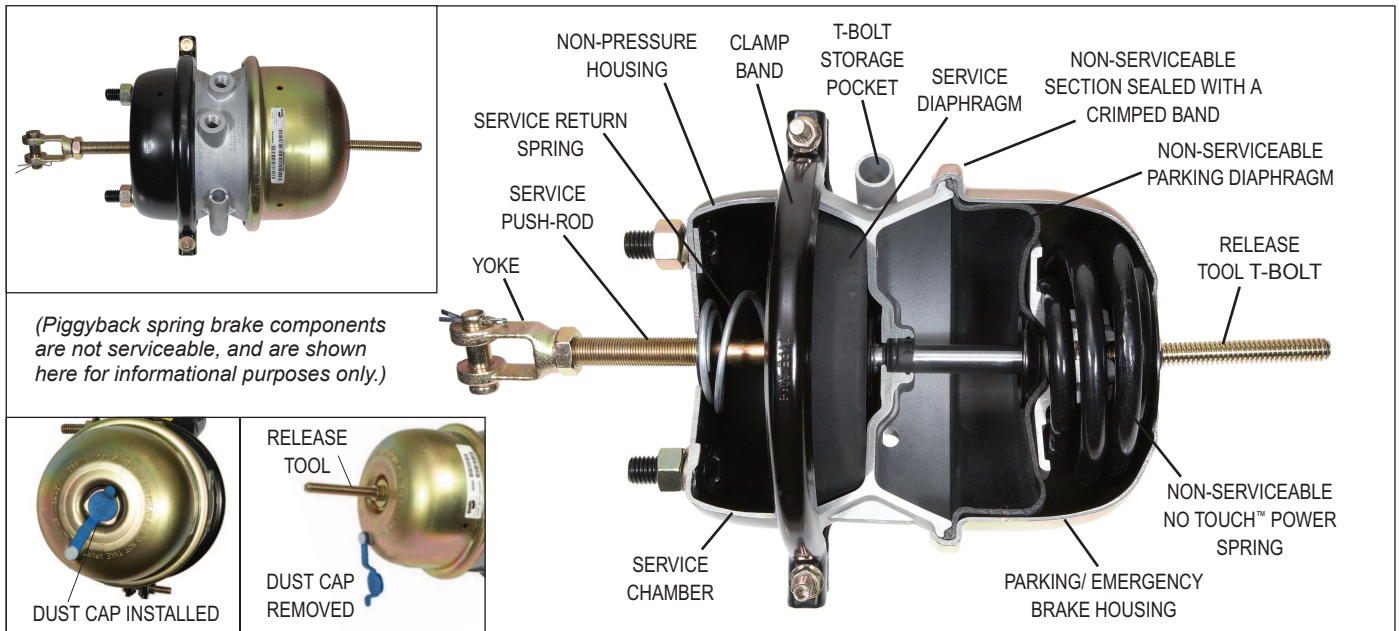

FIGURE 1 - BENDIX® EVERSURE® SPRING BRAKE
6.0.2 Remove the dust cap from the keyhole in the center of the spring brake chamber. *See Figure 1.*